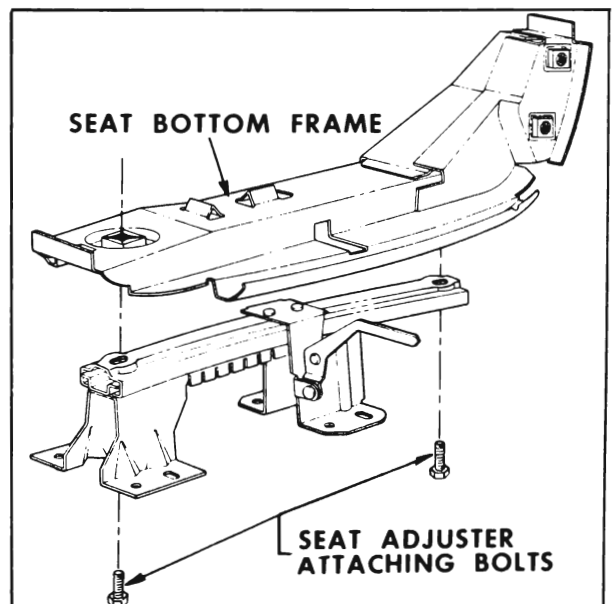

Figure 5-1—Manual Seat Adjuster
4. Remove adjuster-to-seat bottom frame front and rear attaching bolts and remove seat adjuster from seat assembly (Figure 5-1).